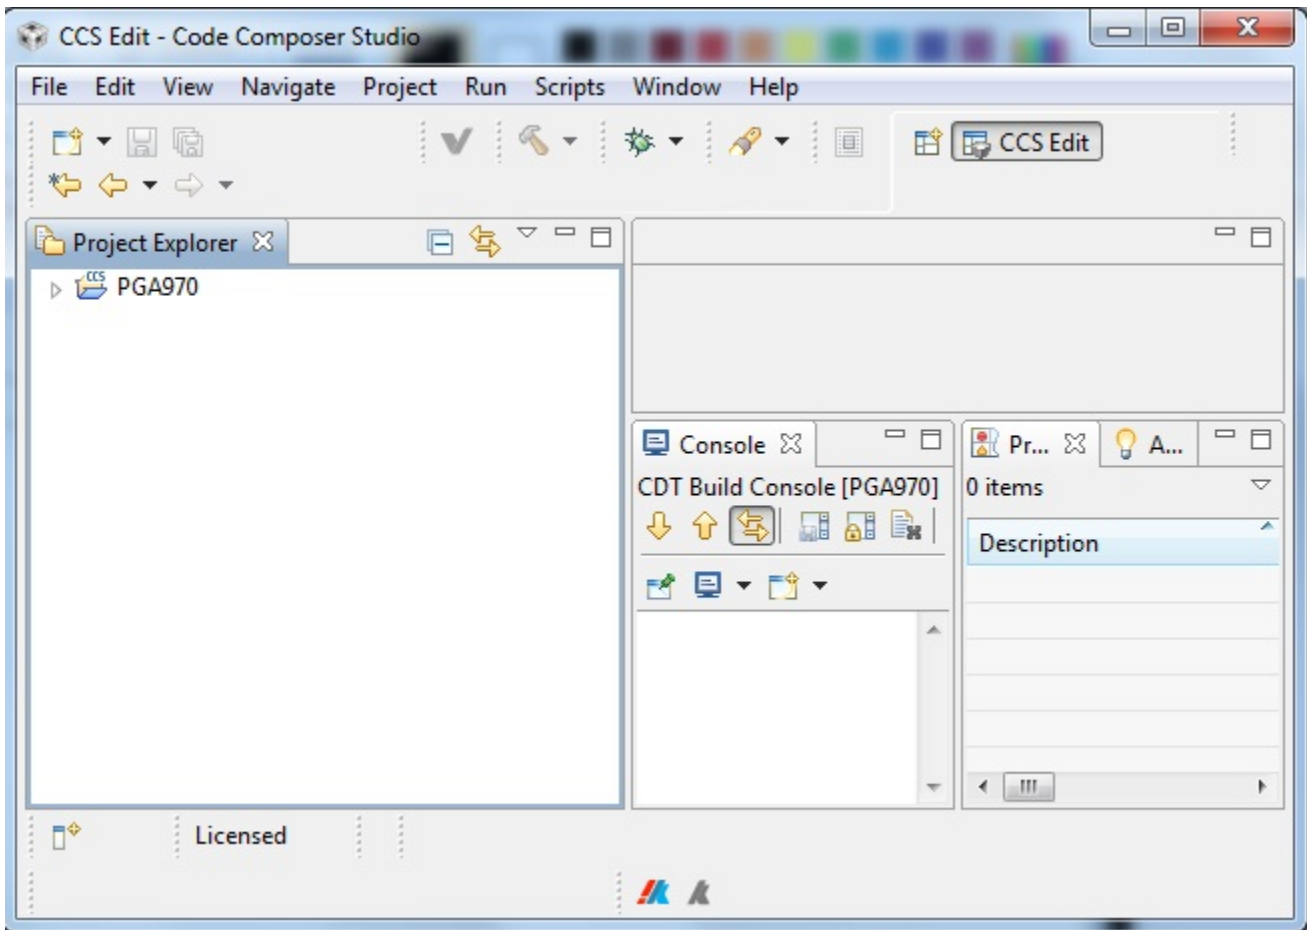

Figure 4. PGA970 Project
14. Project Explorer window will display PGA970 folder as shown in Figure 4 or code folder.